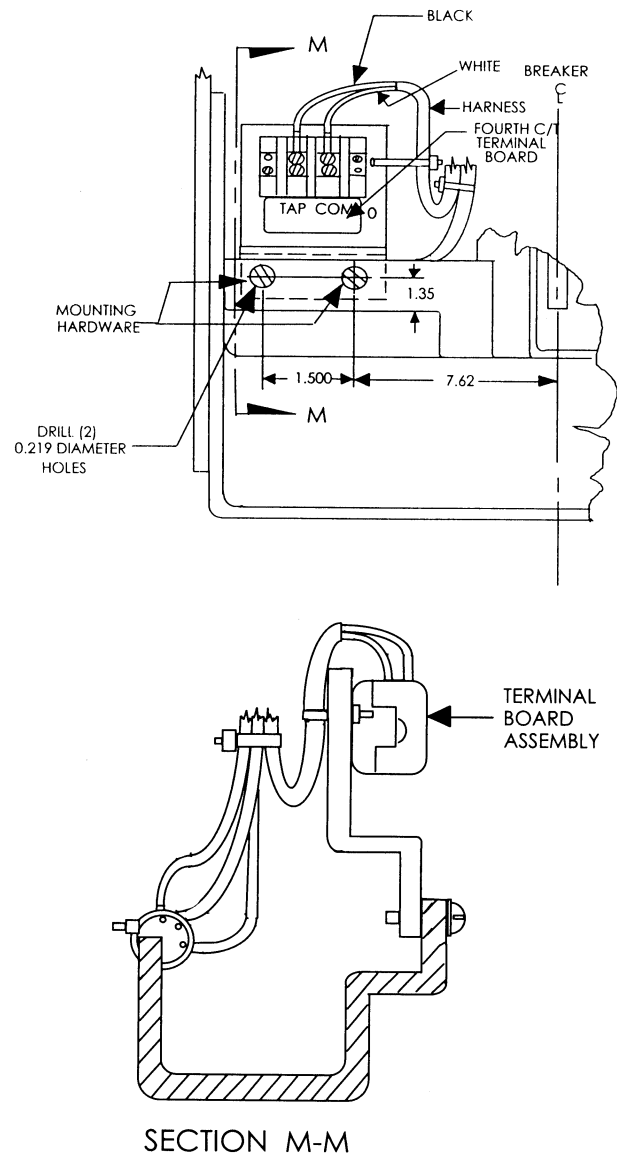

Figure 24. Fourth-wire terminal board installation on AK-50 & AKS-50 stationary breakers.
The fourth-wire disconnect for stationary breakers consists of a terminal board mounted to the lower front channel, as shown in Figure 24.
- If the terminal board must be added, mount it as shown in Figure 24. The mounting holes may have to be added to the front channel.